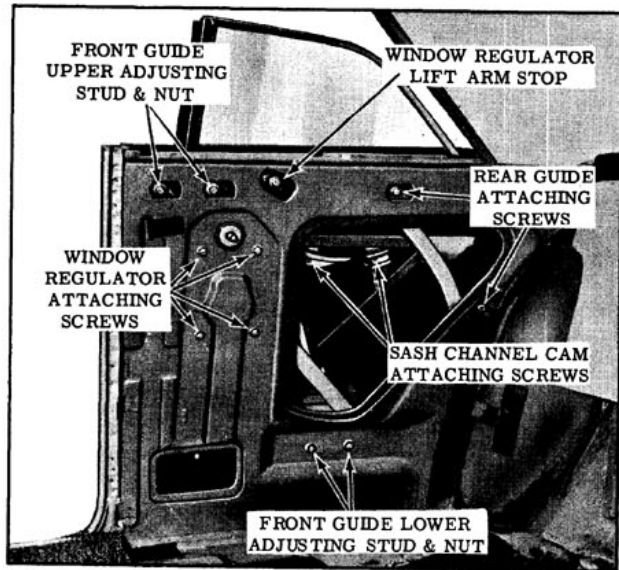

Fig. 16-80 Rear Quarter Hardware (47 Style)
2. Remove rear quarter window rear guide attaching screw. (Fig. 16-80) Disengage rear guide from roller on window lower sash channel and remove guide.
3. With the rear quarter window in the half-down position, remove the lower sash channel cam attaching screws. (Fig. 16-80) Detach cam from roller on regulator arm and remove cam.
4. Remove rear quarter window front guide adjusting stud nuts. (Fig. 16-80)
2. Remove rear quarter window rear guide attaching screws. (Fig. 16-80) Disengage rear guide from roller on window lower sash channel and remove guide.
3. With the rear quarter window in the half-down position, remove lower sash channel cam attaching screws. (Fig. 16-80) Detach cam from roller on regulator arm and remove cam.
2. To adjust the window fore or aft, loosen the front and rear guide attaching stud nuts. (Fig. 16-80) Position the window and guides fore or aft as required; then tighten the attaching stud nuts.
3. To adjust the rear quarter window in or out, loosen the front guide upper attaching stud nuts. (Fig. 16-80) Adjust the studs in or out as required; then tighten the stud nuts.
4. To adjust the top of the rear quarter window in or out, loosen the front guide lower attaching stud nut. (Fig. 16-80) Adjust the stud in or out as required, then tighten the stud nut.
5. To relieve a binding condition between the channels of the front and rear guide, loosen the front and rear guide adjusting stud nuts. (Fig. 16-80) Operate window to full up position and forward attaching screw on rear guide and tighten upper stud nuts on the front guide. Operate window to full down and tighten remaining nuts.
6. To limit the forward and upward travel of the rear quarter window, adjust the regulator lift arm stop as required. (Fig. 16-80)
3. Remove window regulator attaching screws (Fig. 16-80) and remove regulator through large access hole.
2. With window in up position, remove the window front guide upper and lower attaching stud nuts. (Fig. 16-80)
2. With the window in the up position, remove the window rear guide attaching screws. (Fig. 16-80) Disengage guide from roller on window lower sash channel and remove guide through access hole.